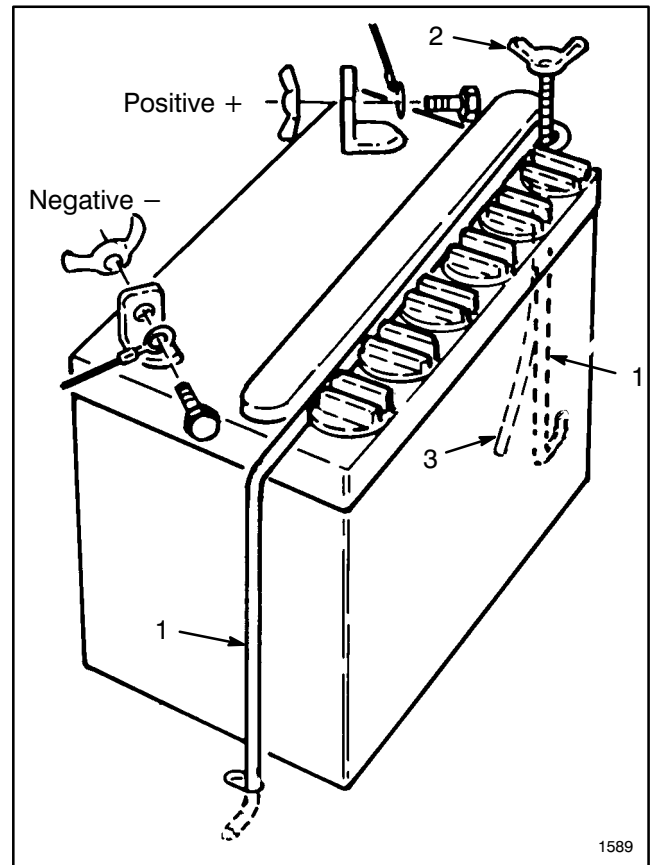

Figure 3
1. Remove wing nut securing battery hold downs to rider chassis (Fig. 3).
7. Reinstall the battery with terminal posts toward the rear of the machine and vent tube thru hole in frame (Fig. 3).
9. Reinstall the positive cable to the positive (+) terminal and the negative cable (black) to the negative (-) terminal of the battery and secure with cap screws and wing nuts (Fig. 3).